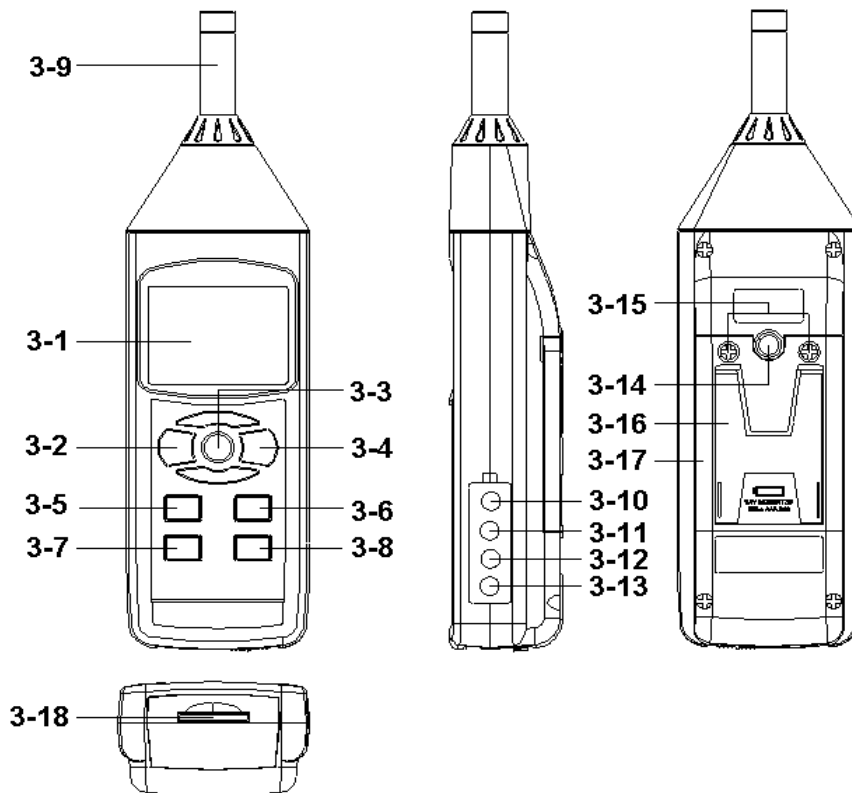

Fig. 1
- 1) Power on by pressing the " Power On/Off Button " ( 3-2, Fig. 1 ) , the meter's default function is " Auto range ", " A frequency weighting " & " Fast time weighting ". The LCD display will show the unit " A. Fast Auto ".
- 2) Select " A " or " C " frequency weighting by pressing the " A/C Button " ( 3-6, Fig. 1 ) .
- 3) Determine proper measuring range by pressing the " Range Button " ( 3-5, Fig. 1 ).
Under the auto range, press the " Range Button " ( 3-5, Fig. 1 ) once step by step will enter to the manual range ( range 1, range 2, range 3 ) and auto range in sequence. There are still 3 manual ranges for your choice :
4) According to various measuring sound source, select the Time Weighting ( Fast or Slow ) by pressing the " Time Weighting Button " ( 3-7, Fig. 1 ).
During the measurement, press the " Hold Button " ( 3-3, Fig. 1 ) once will hold the measured value & the LCD will display a " HOLD " symbol.
1) The data record function records the maximum and minimum readings. Press the " REC Button " ( 3-4, Fig. 1 ) once to start the Data Record function and there will be a " REC " symbol on the display.
- a) Press the " REC Button " ( 3-4, Fig. 1 ) once, the " REC MAX " symbol along with the maximum value will appear on the display.
If intend to delete the maximum value, just press the " Hold Button " ( 3-3, Fig. 1 ) once, the display will show the " REC " symbol only & execute the memory function continuously.
- b) Press the " REC Button " ( 3-4, Fig. 1 ) again, the " REC MIN " symbol along with the minimum value will appear on the display.
If intend to delete the minimum value, just press the " Hold Button " ( 3-3, Fig. 1 ) once, the display will show the " REC " symbol only & execute the memory function continuously.
After power ON, the " LCD Backlight " will light automatically. During the measurement, press the " Backlight Button " ( 3-2, Fig. 1 ) once will turn OFF the " LCD Backlight " .
Prepare a " SD memory card " ( 1 GB to 16 GB, optional ), insert the SD card into the " SD card socket " ( 3-18, Fig. 1). The front panel of the SD card should face against the the down case.
Press the " REC Button ( 3-4, Fig. 1 ) once , the LCD will show the text " REC ", then press the " Logger Button " ( 3-8, Fig. 1 ), the " REC " will flashing , at the same time the measuring data along the time information will be saved into the memory circuit.
During execute the Datalogger function , if press the " Logger Button " ( 3-8, Fig. 1 ) once will pause the Datalogger function ( stop to save the measuring data into the memory circuit temporally ). In the same time the text of " REC " will stop flashing.
*If press the " Logger Button " ( 3-8, Fig. 1 ) once again will execute the Datalogger again, the text of " REC " will flashing .*
During pause the Datalogger, press the " REC Button " ( 3-4, Fig. 1 ) continuously at least two seconds, the " REC " indicator will be disappeared and finish the Datalogger.
Press the " REC Button ( 3-4, Fig. 1 ) once , the LCD will show the text " REC " , then press the " Logger Button " ( 3-8, Fig. 1 ) once, the " REC " will flashing once, at the same time the measuring data along the time information and the Position no. will be saved into the memory circuit.
*\* During execute the Manual Datalogger, press the " SET Button " ( 3-7, Fig. 1 ) once, then use the " ▲ Button " ( 3-5, Fig. 1 ) or " ▼ Button " ( 3-6, Fig. 1 ) to set the measuring position ( 1 to 99, for example room 1 to room 99 ) to identify the measurement location. After finish the adjustment location no., press the " Enter Button " to entry.*
Press the " REC Button " ( 3-4, Fig. 1 ) continuously at least two seconds, the " REC " indication will be disappeared and finish the Datalogger.
During the measurement if press " Time check Button " ( 3-5, Fig. 1 ) > 2 seconds, the lower LCD display will present the time information of Year/Month, Date/Hour, Minute/Second.
During the measurement , If press " Sampling Check Button " ( 3-6, Fig. 1 ) > 2 seconds, the lower LCD display will present the Sampling time information in second unit.